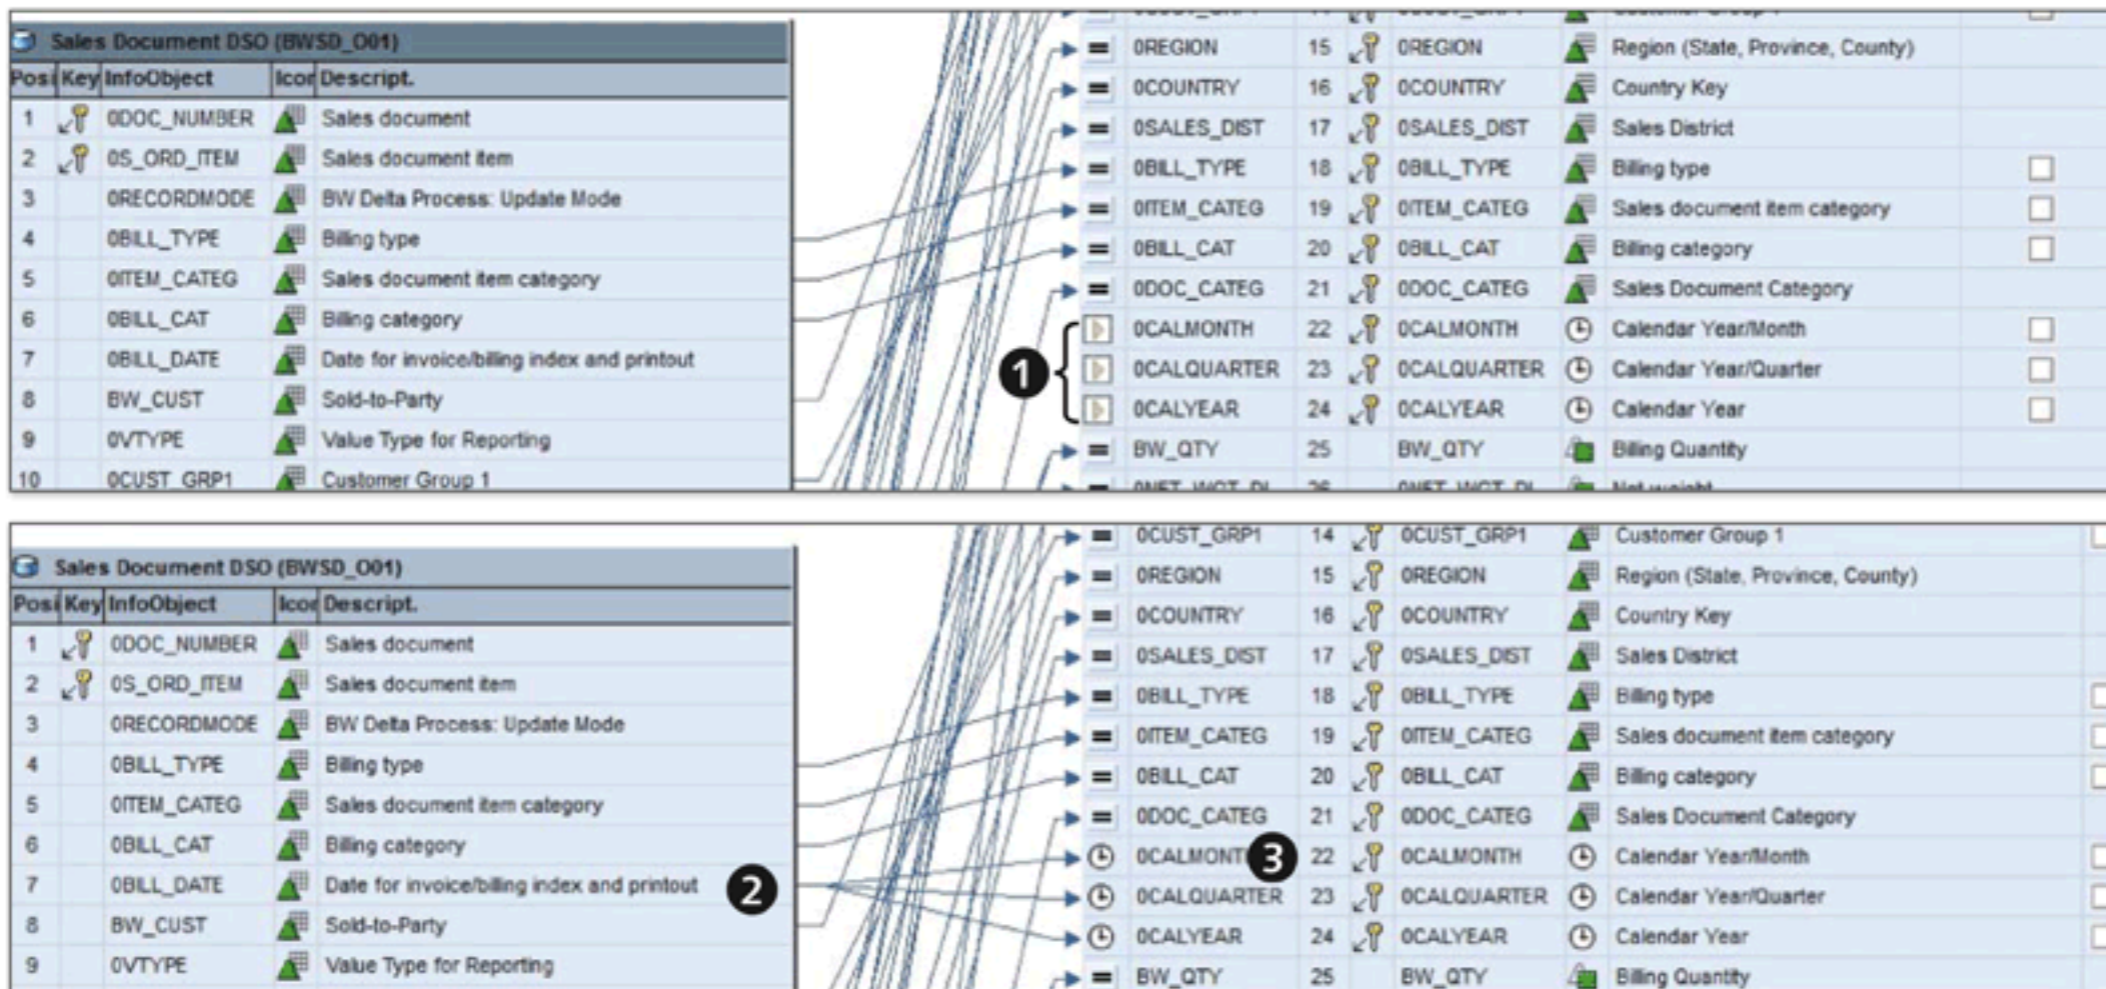

Figure 7.72 Time Conversion Transformation
As shown in ❶ of Figure 7.72, the system doesn't propose any transformations for the target InfoObjects because there are no matching source InfoObjects available; to fix this, you must associate OBILL_DATE with the three target InfoObjects (OCALMONTH, OCALQUARTER, and OCALYEAR). Select OBILL_DATE (❷), and drop it over OCALMONTH. Repeat this process for OCALQUARTER and OCALYEAR. The result of these activities is shown in ❸ of Figure 7.72.